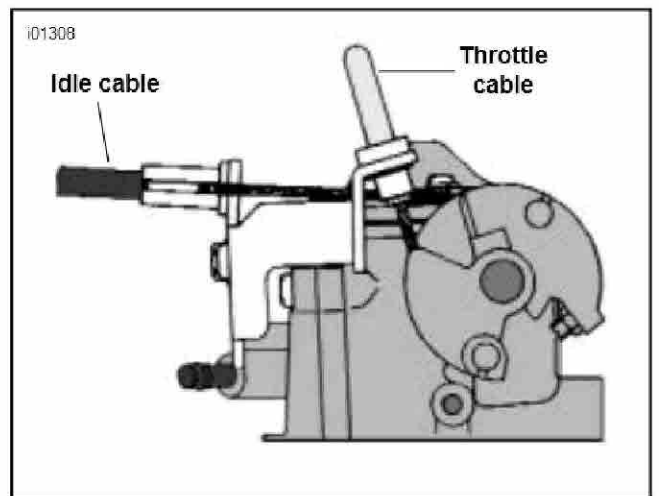

Figure 3. Cable Attachment At Carburetor
3. See Figure 3. First connect the idle cable to carburetor then the throttle or opening cable.